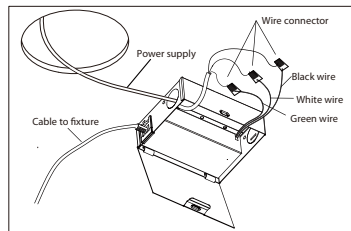

FIG. 3
2. Open the junction box swing cover and remove the appropriate knockout, insert a NM connector (for strain relief) in the knockout (not included). Insert the electrical supply cable through the connector/knock out. Use the wirenuts to connect the white wire from the supply wire with the white wire of the junction box. Match the black wire from the supply wire with the black wire of the junction box. Match the copper wire with the black wire of the supply wire and with the green wire of the junction box. (Fig. 3)